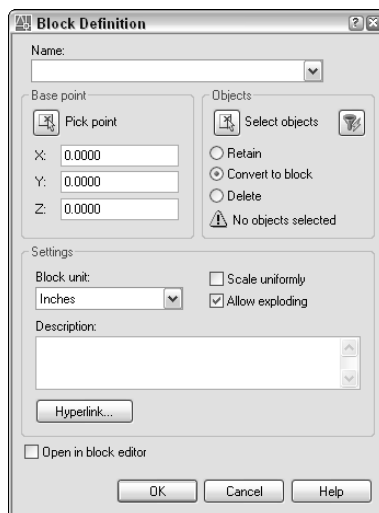

Figure 18-3: The Block Definition dialog box.
1.  Choose Make Block from the Draw toolbar to start the BLOCK command and open the Block Definition dialog box, shown in Figure 18-3. The dialog box guides you through the process of defining a block.